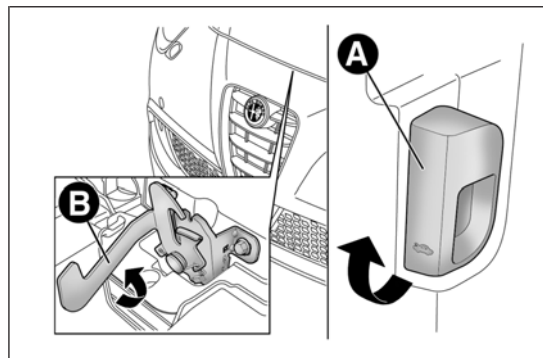

fig. 66
- ❑ pull lever A fig. 66 in the direction indicated by the arrow;